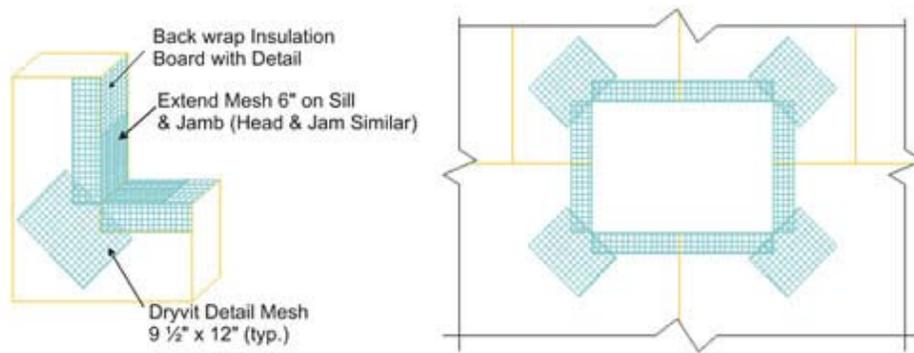

Figure 6
- 7.4.19. Corners of all openings such as windows, doors, mechanical equipment and all penetrations shall be reinforced with Detail Mesh placed diagonally to the opening as illustrated in Figure 6.